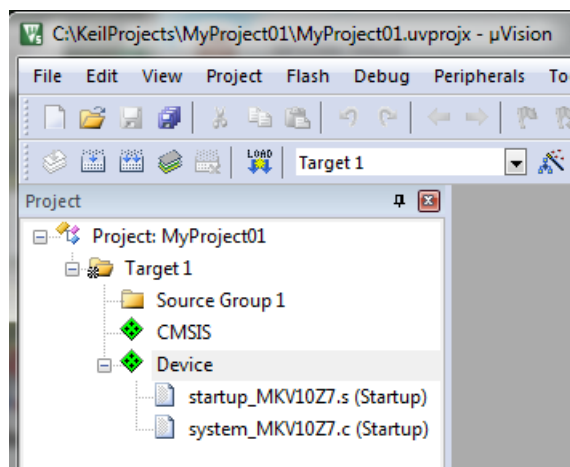

Figure 1-21. Project
10. Click OK, and a new project is created. The new project is now visible in the left-hand part of Keil μ Vision. See Figure 1-21.